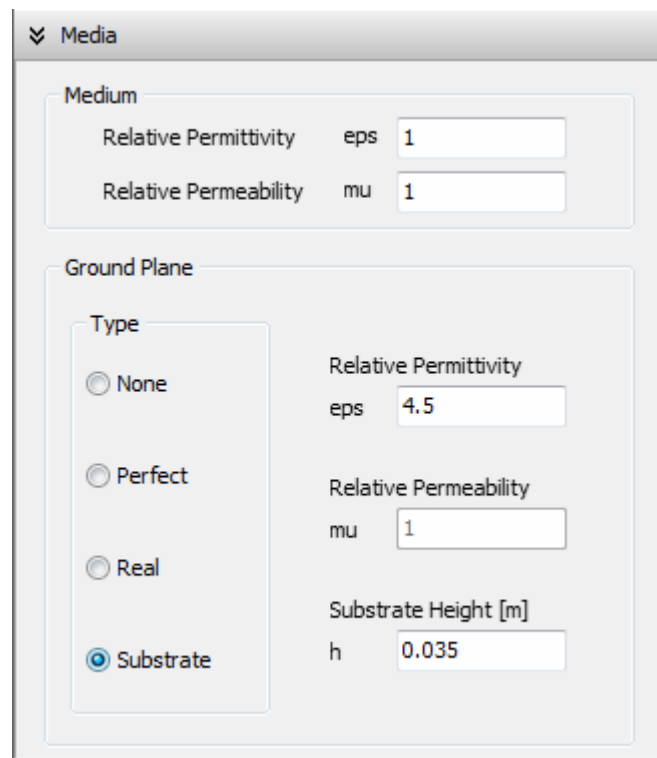

Fig. 10.3: Substrate option in the Ground Plane box of the Media panel.
3. Check the **Substrate** option in the Ground Plane box, Fig. 10.3.